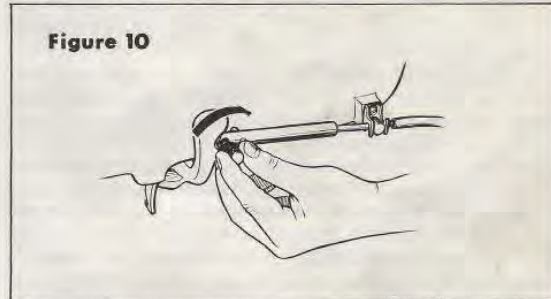

Figure 10
4. Attach gear shift fitting to shift control lever by pushing plug in against spring tension and turning to the right to lock. See Figure 10.